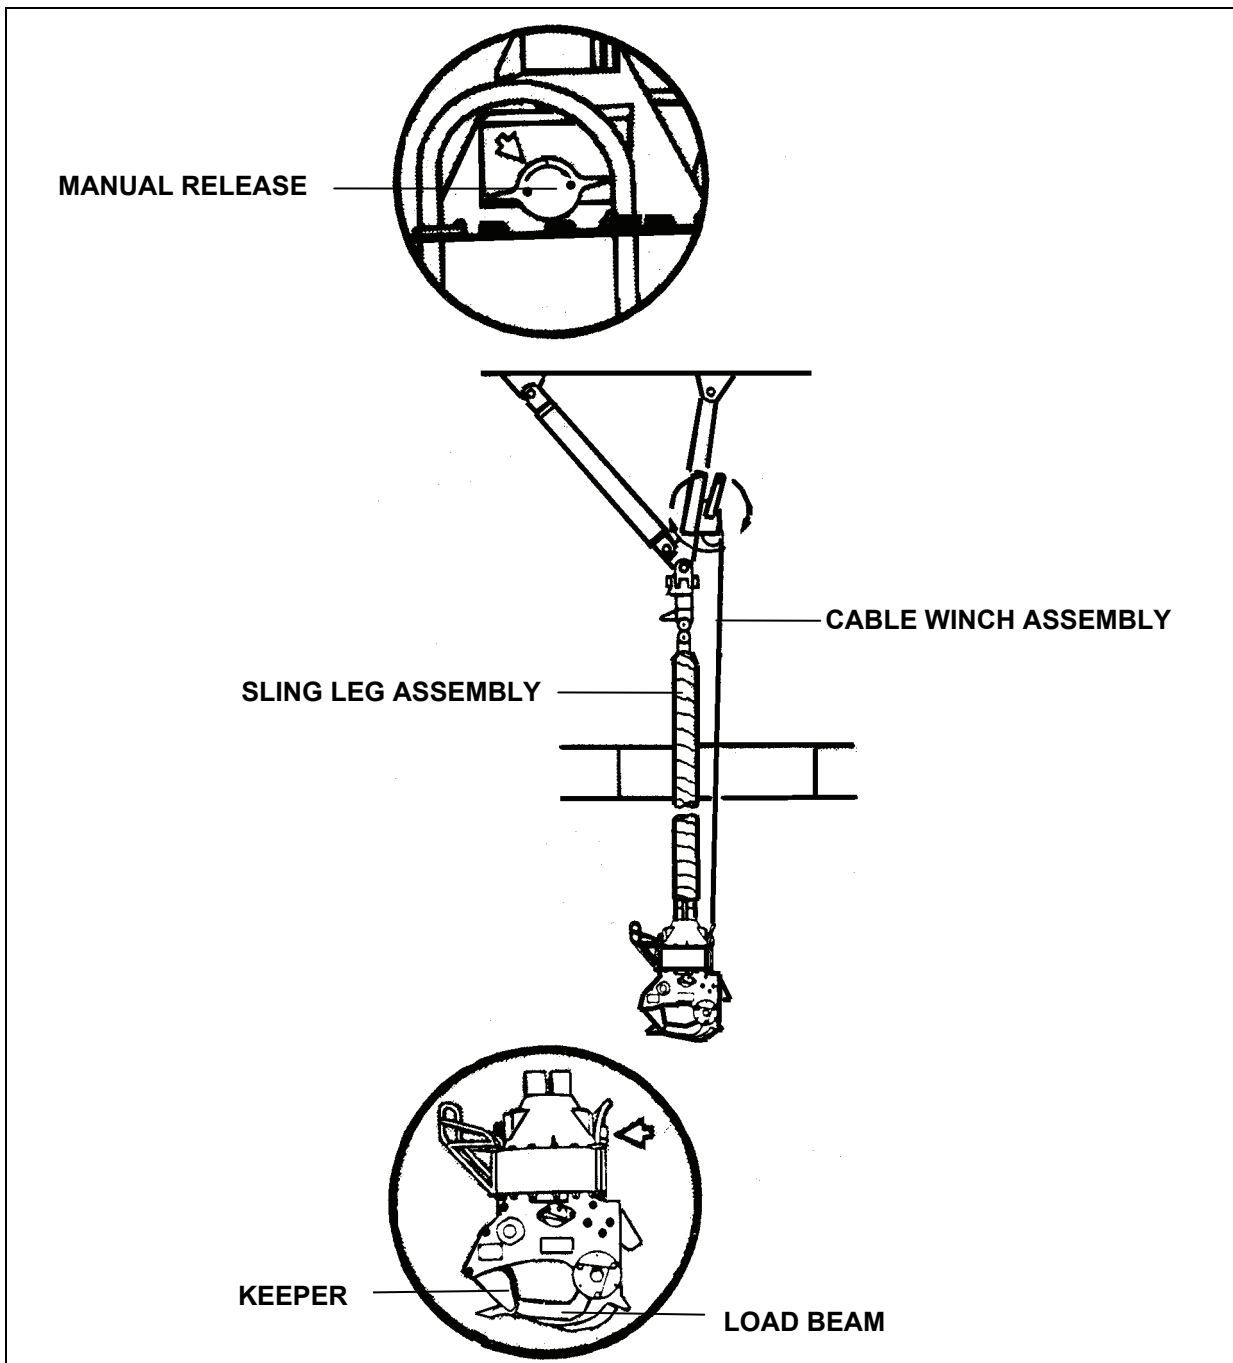

Figure 2-19. H-53E Center Cargo Hook
- The center cargo hook, suspended on the end of a pendant below the fuselage near the centerline, is used for single-point loads (Figure 2-19). Even though the hook capacity is greater, the aircraft maximum lift capacity is 32,000 pounds. The aircrew can open the cargo hook manually or electrically. A manual release knob is located on a side of the top part of the hook. In an emergency, a ground crewman can open the cargo hook by rotating the knob clockwise.